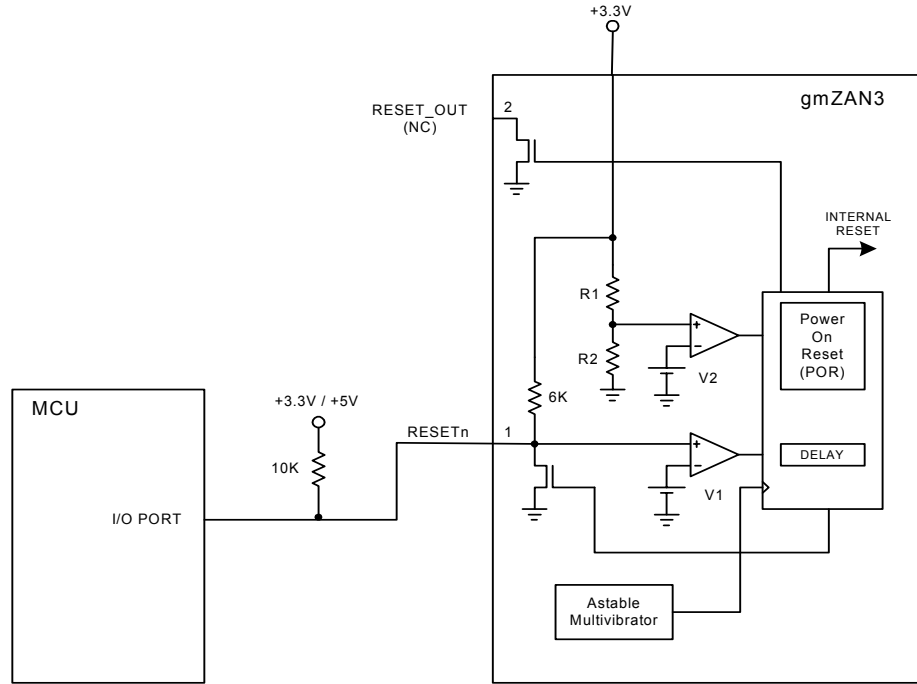

Figure 11. External MCU Re-setting gmZAN3
2. In figure 11, an external MCU generates the reset, applied to RESETn input of gmZAN3.